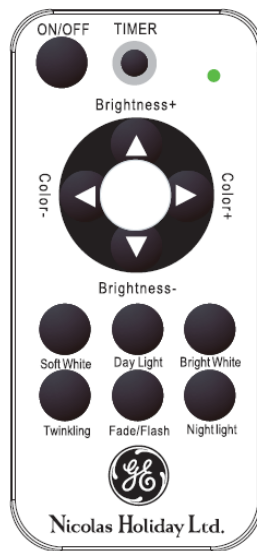

Fig.2
2. The remote has twelve buttons {Fig. 2}